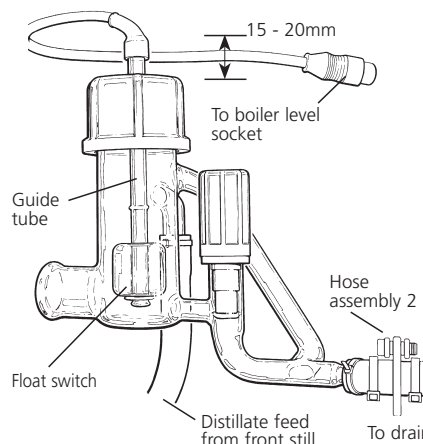

Fig 10 W4L2A Level Control
- The float switch on the second stage boiler level control W4L2A is set at the factory. However, check that this has not been disturbed during transit. A rough check is that the distance from the top of the large screw cap of the W4L2A to the top of the glass guide tube should be approximately 15-20mm see fig. 10.
- 9 Allow the rear boiler to fill with single distilled water (for approx. 20 to 30 minutes), keeping an eye on the level. Note that the heater of the second stage only comes on when the level of single distilled water in the rear boiler is at about the equator. It may be necessary to adjust the level of the float switch of the WL42A to achieve this condition. Refer to fig. 10.